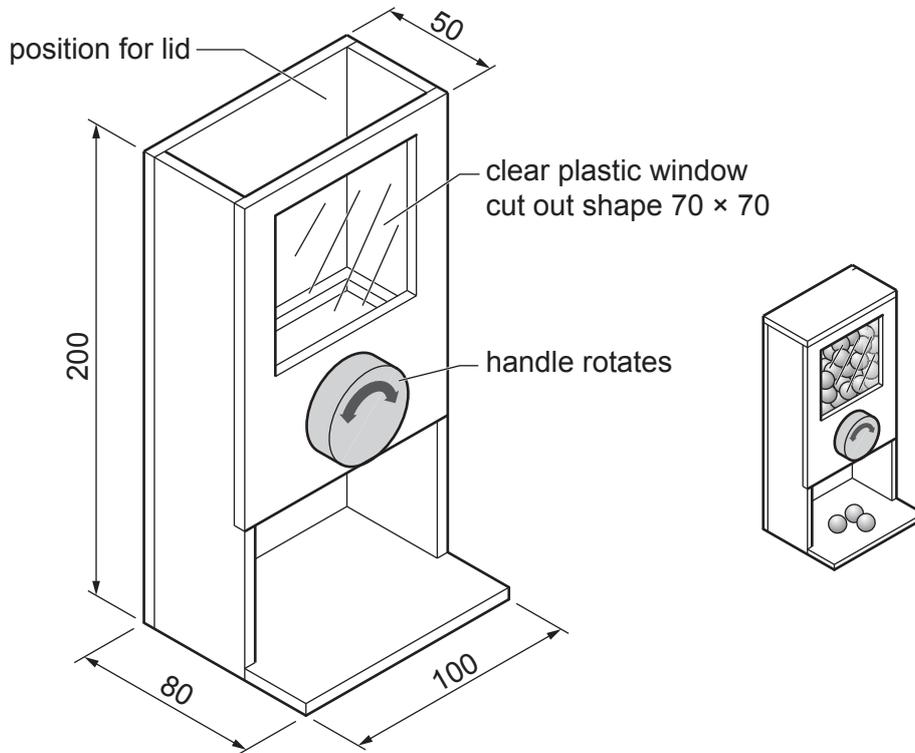

Fig. 11.1
- 11 Fig. 11.1 shows an incomplete design for a sweet dispenser. The sweet dispenser is made from 5 mm thick MDF with a clear plastic window. The mechanism that allows sweets to fall when the handle is turned has been removed.
- (f) Use sketches and notes to show a design for a lid that could be fitted in the position shown in Fig. 11.1.